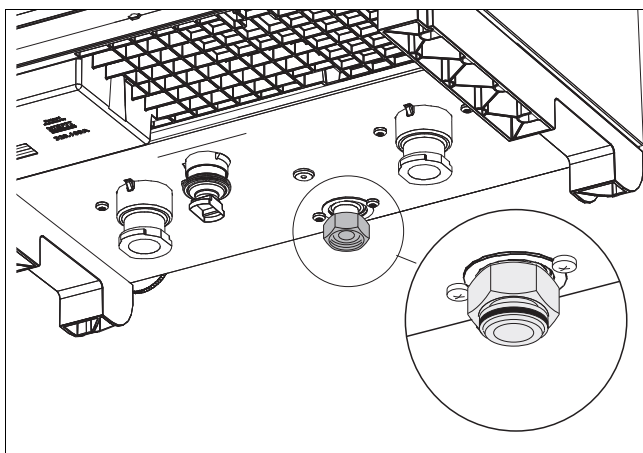

fig. 3 Rubber o-ring
- Make sure that the factory-fitted o-ring is located in the threaded connection (boiler side, see fig. 3, detailed picture).